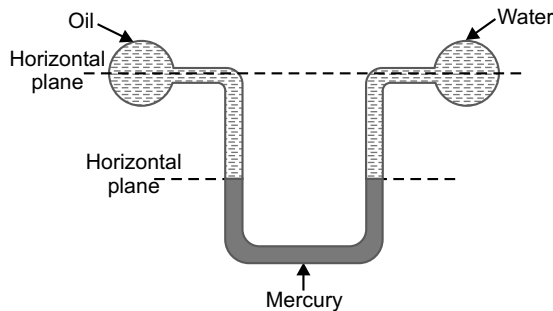

Fig. 18
Q. 76. The manometer shown in Fig. 18 connects two pipes, carrying oil and water respectively. From this figure one